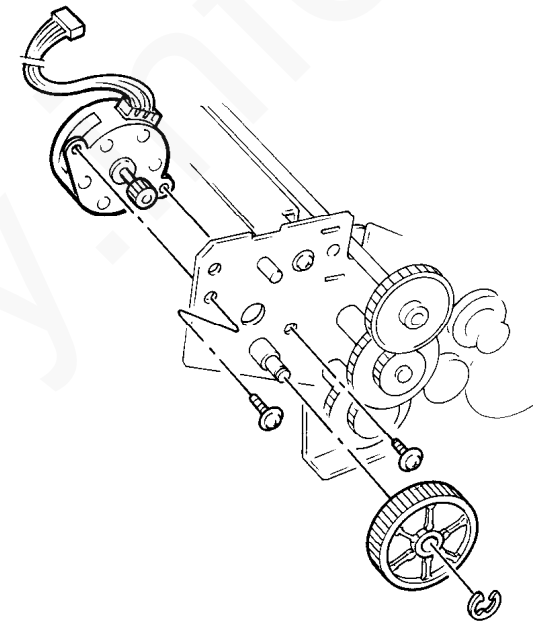

Figure 3. Scan motor
9. Remove the two screws retaining the scan motor to the rear frame (figure 3).